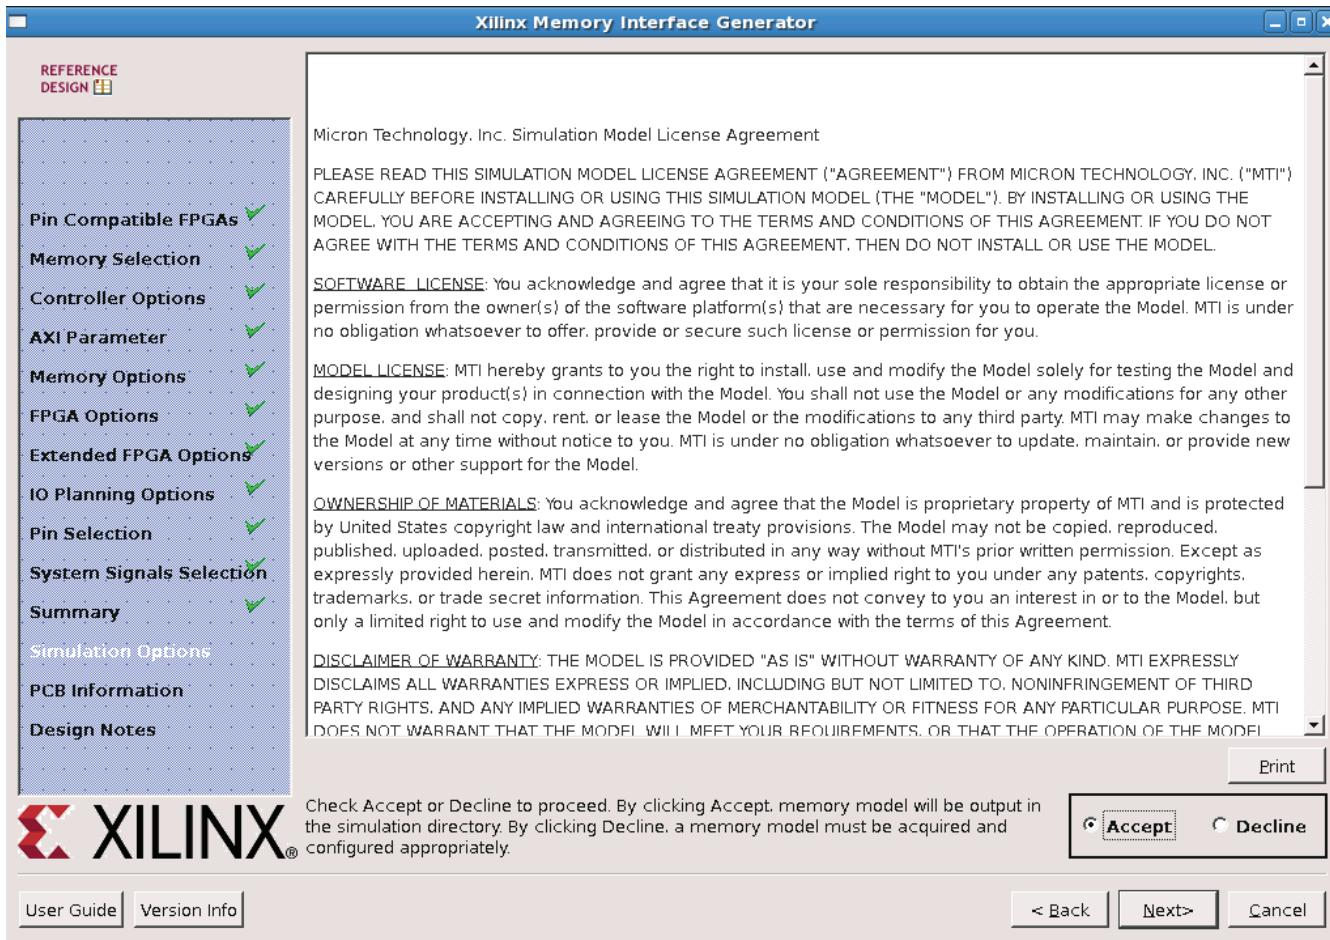

Figure 42: MIG Micron Model License Agreement
30. Review the License Agreement, click **Accept**, and then **Next** to have the Vivado tools deliver a memory simulation model for use in creating a simulation testbench (Figure 42). If the License agreement is declined, a separate model must be obtained to perform simulations with this IP core.